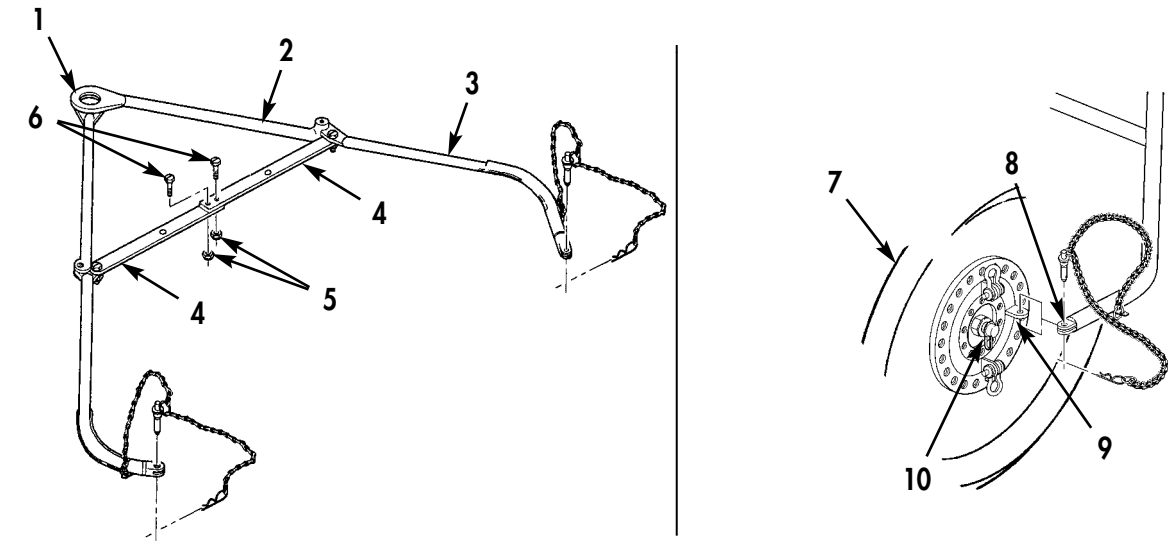

Figure 11. Use of Towing and Lifting Yoke.
1. Unfold two connecting legs (Figure 11, Item 3) from two upper legs (Figure 11, Item 2).
2. Unfold two braces (Figure 11, Item 4) from two connecting legs (Figure 11, Item 3), and remove two locknuts (Figure 11, Item 5) and screws (Figure 11, Item 6) from braces (Figure 11, Item 4). Discard two locknuts (Figure 11, Item 5).
3. With holes in two braces (Figure 11, Item 4) aligned, install two screws (Figure 11, Item 6) and new locknuts (Figure 11, Item 5) on braces (Figure 11, Item 4).
5. Connect clevis ends (Figure 11, Item 8) of towing and lifting yoke to drum (Figure 11, Item 7). Refer to WP 0004.
6. Connect towing eyes (Figure 11, Item 1) of towing and lifting yoke (Figure 11, Item 12) to pintle hook (Figure 11, Item 11) on suitable towing vehicle.
7. Move and position drum (Figure 11, Item 7) according to site location and layout. Disconnect towing and lifting yoke (Figure 11, Item 12) from pintle hook (Figure 11, Item 11) on towing vehicle.
8. Remove towing and lifting yoke (Figure 11, Item 12) from drum (Figure 11, Item 7). Refer to WP 0004.
9. Remove two locknuts (Figure 11, Item 5) and screws (Figure 11, Item 6) from two braces (Figure 11, Item 4), fold both braces (Figure 11, Item 4) and connecting legs (Figure 11, Item 3), and stow two screws (Figure 11, Item 6) and locknuts (Figure 11, Item 5) on braces (Figure 11, Item 4).
10. Carefully remove two plastic protective dust caps (Figure 11, Item 9) from adapter assemblies (Figure 11, Item 10) on drum (Figure 11, Item 7), and connect two coupler valves. Refer to TM 10-5430-245-12&P or TM 10-5430-247-13&P.